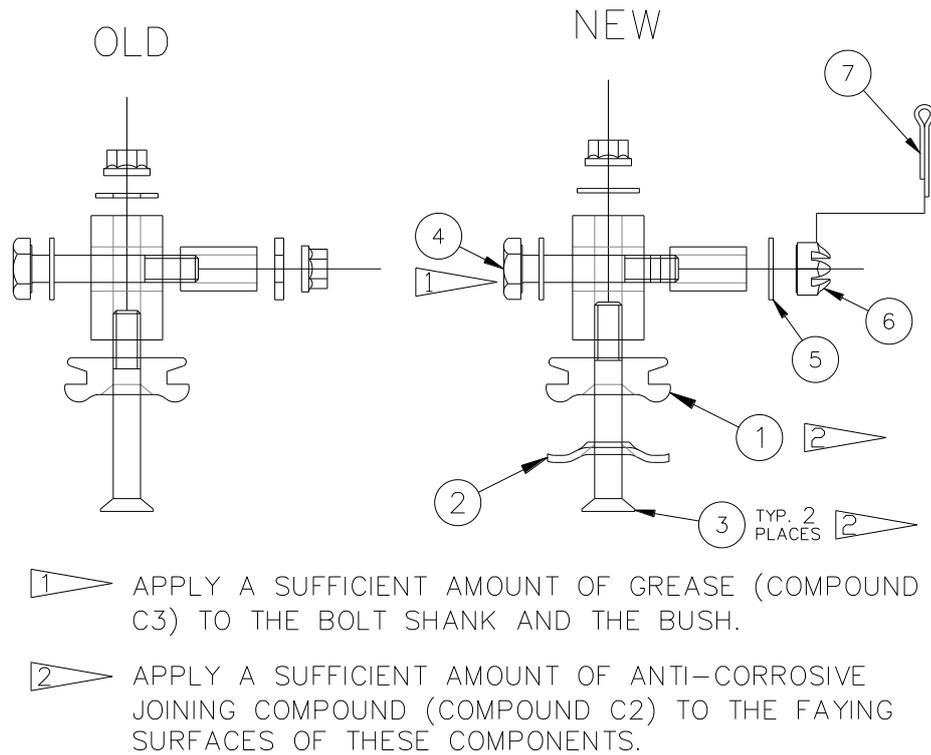

Figure 4: Old (left) and New (right) Forward Cargo Door Guide Assembly.
2. Inspect the slide assembly. If the Backing Plate (Item 2 of Figure 4) is fitted, no further action is required. If the Backing Plate is **NOT** fitted, do the remaining steps of this part.
6. Irrespective of Item 1, Items 2 to 7 MUST be fitted as shown in Figure 4 and listed in Table 3.